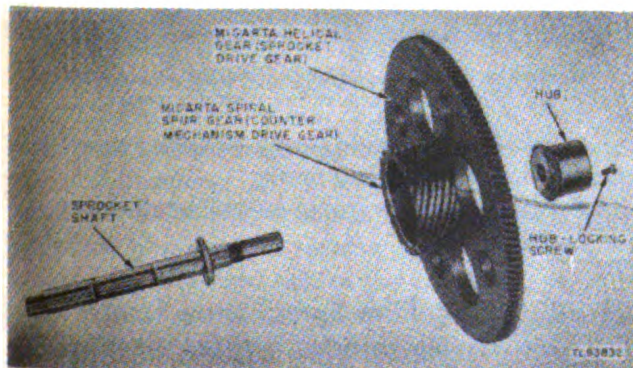

Figure 125. Sprocket shaft removed from gear assembly.
64. Replacing Sprocket Shaft (fig. 125)